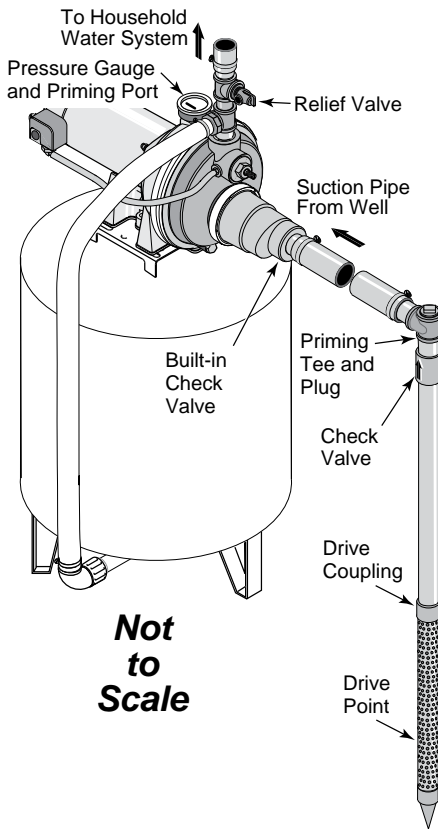

Figure 5: Driven Point Installation
Well Point Installation (Figure 5)
5. Use the fewest possible fittings (especially elbows) when connecting the pipe from the well point to the pump suction port. The suction pipe should be at least as large as the suction port on the pump (include a check valve – see Figure 5). Support the pipe so that there are no dips or sags in the pipe, so it doesn’t strain the pump body, and so that it slopes slightly upward from the well to the pump (high spots can cause air pockets which can air lock the pump). Seal the suction pipe joints with PTFE pipe thread sealant tape or a PTFE-based pipe joint compound approved for use on PVC. Joints must be air- and water-tight. If the suction pipe can suck air, the pump cannot pull water from the well. If one well point does not supply enough water, consider connecting two or three well points to one suction pipe.